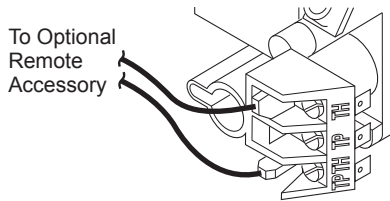

Figure 38 - Control Valve Terminals
1. Open bottom louver (V)(VC36 series) or remove screen door assembly (V)(VCC36 series) and locate switch bracket on the right.
4. Connect wires from receiver to TH and TPTH to control valve (see Figure 38).